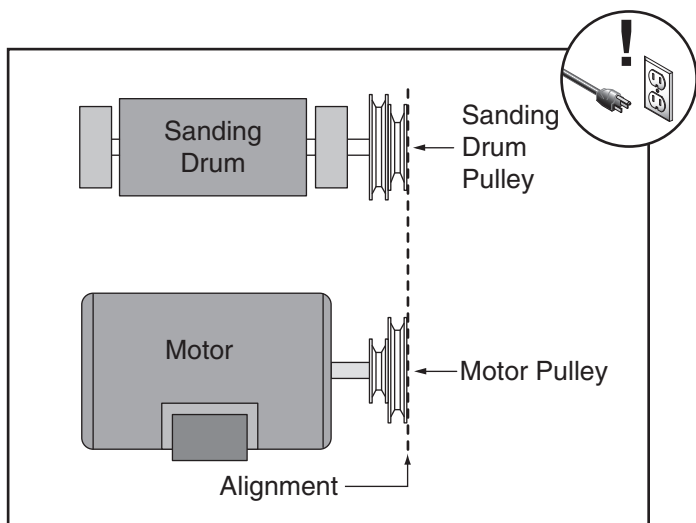

Figure 35. Proper pulley alignment for optimum power transmission.
3. Looking from top, sight down outside face of pulleys to see if pulleys are parallel and aligned with each other (see **Figure 35**).
6. Tighten the set screws, replace the V-belt, and repeat **Step 3** to verify proper pulley alignment. Pulleys should be parallel and aligned, as shown in **Figure 35**, when belt is properly tensioned.